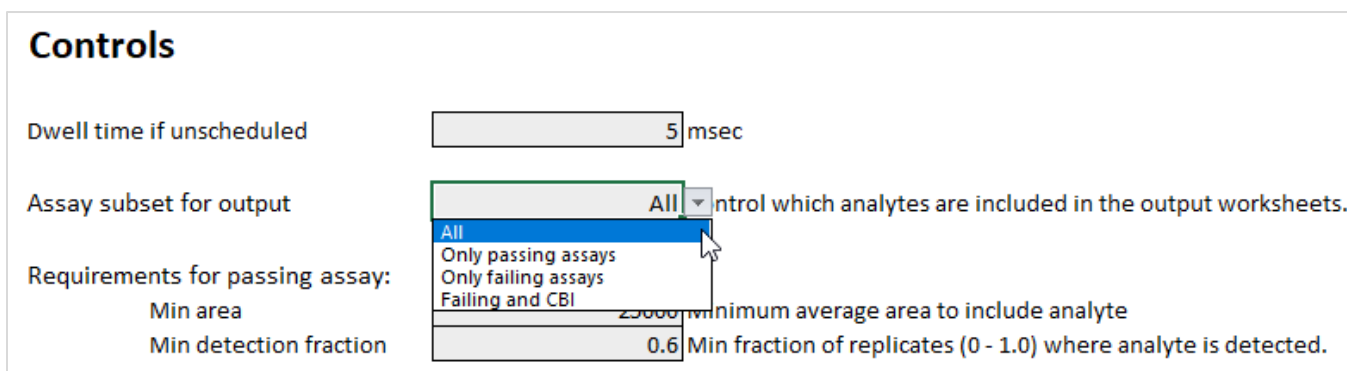

Figure 9.3. Filtering controls in the sMRM Pro Builder template.
9. The template has the ability to filter out lipids that are not detected by using the area, RT and peak width information. Typically, the filtering step is applied only for the last iteration and can be controlled through settings on the *INSTRUCTIONS AND CONTROLS* tab. At this point it is recommended that no lipids are filtered out of the assay so remember to set the *Assay Subset for Output* set to **All** - **Figure 9.3**.
13. Paste the exports into the Excel template again (Input-RT, Input-Area, Input-Width tabs). To have the template automatically filter out the undetected lipids, set the *Assay subset for output* setting to *Only Passing Assays* (**Figure 9.3**). Then click Calculate (F9).